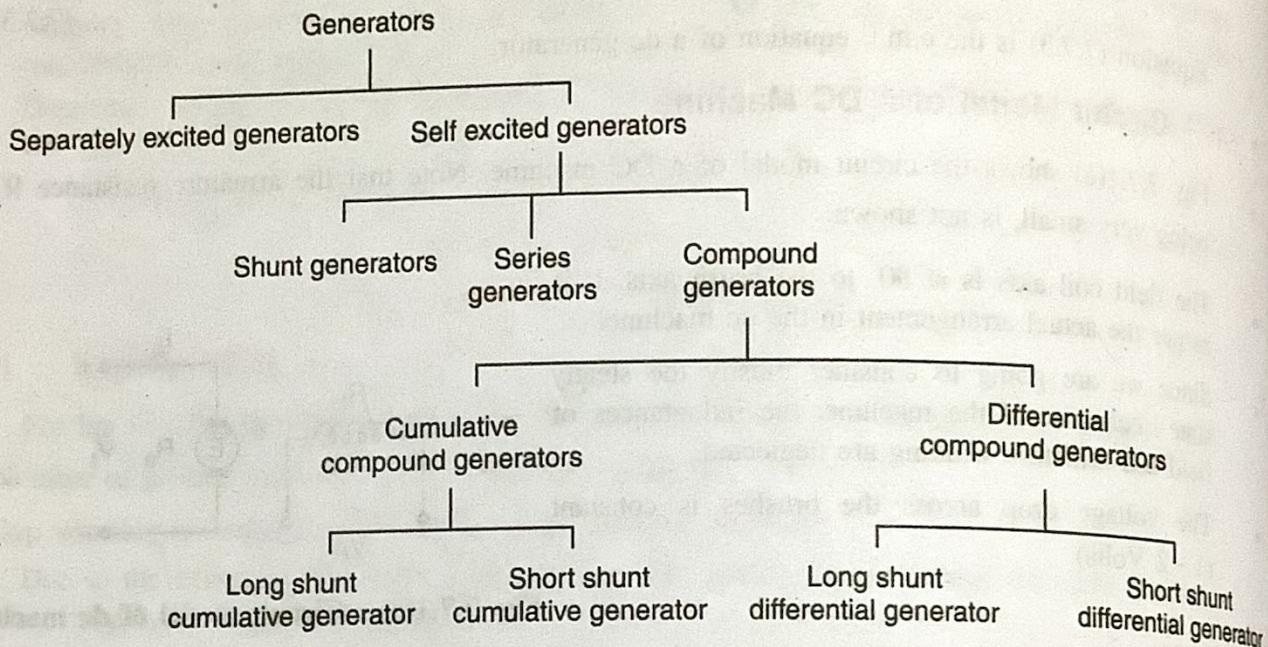

Fig. 7.8.1 : Classification of generators
- Fig. 7.8.1 shows the classification of generators.